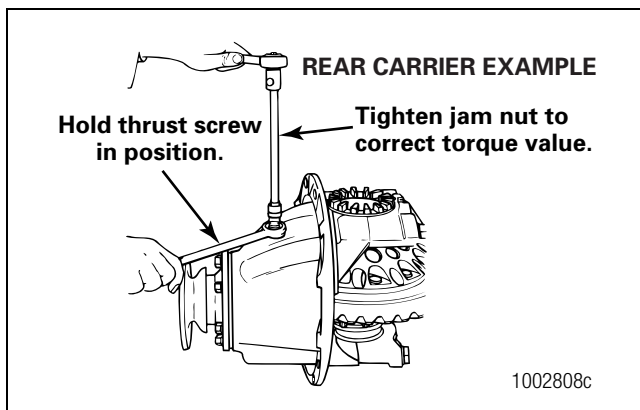

Figure 5.80
5. Tighten the jam nut, if equipped, to the correct torque value against the carrier. Refer to Section 8. Figure 5.80.